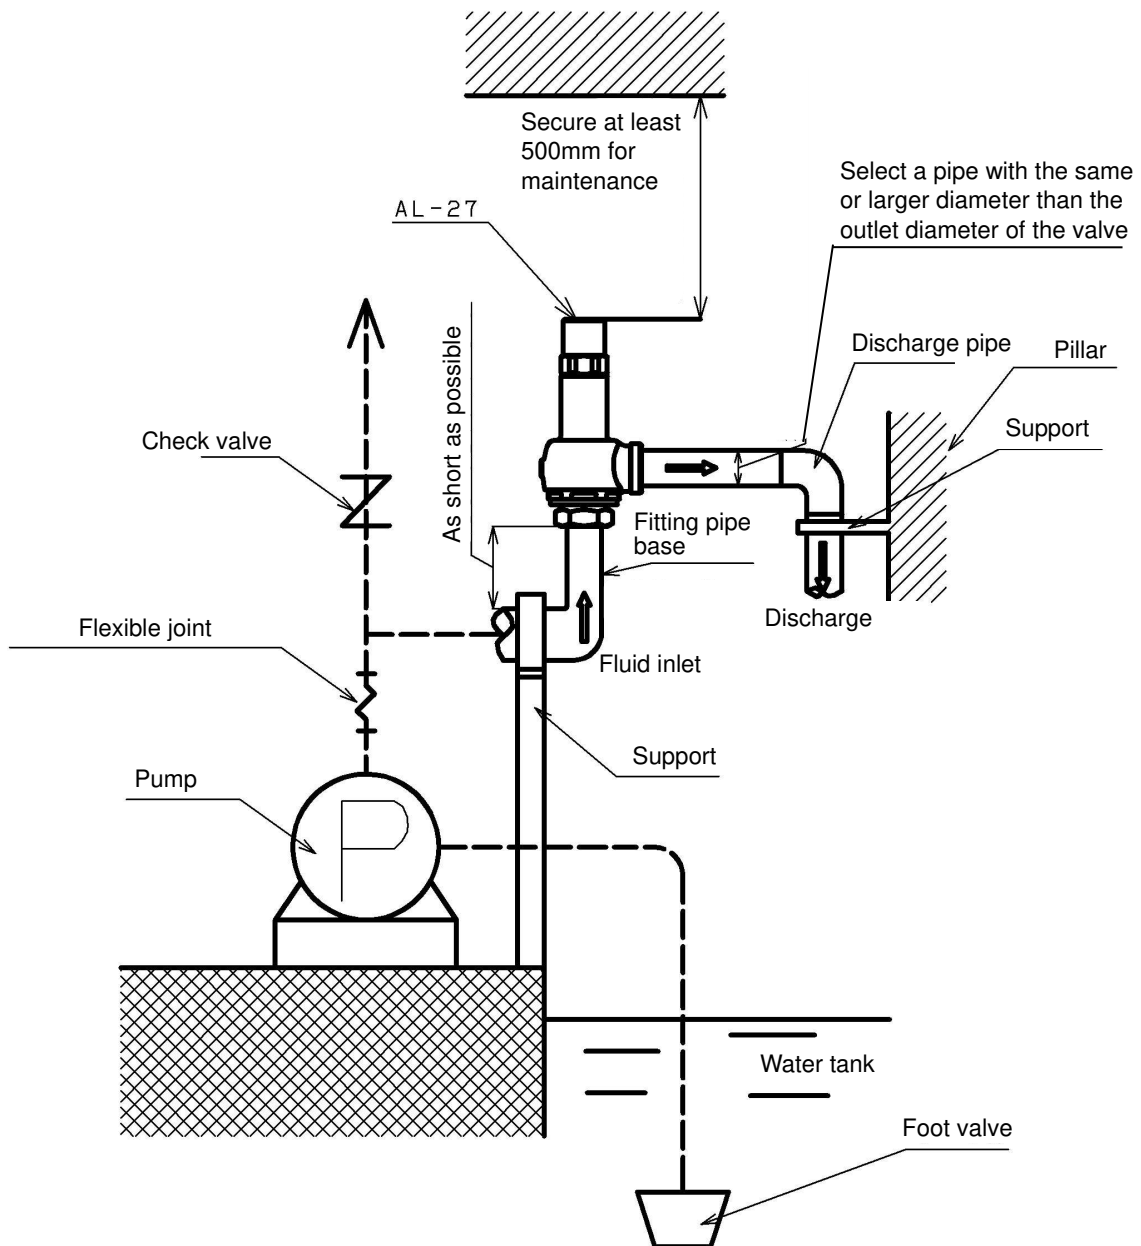

Figure 5. Piping example
3. Install the product vertically with the cap [11] upward. Taking an example with Figure 5, the product must be vertical against water surface in the tank because the surface is horizontal.
7.1 Fitting pipe base (See Figure 5.)
- (1) Fitting pipe base should have enough strength and rigidity against the stress induced by reaction force in the opposite direction of the exhaust through the axis of the exhaust pipe.
- (2) Equip the discharge pipe with a support to avoid excessive load, deflection, or vibration.
- (3) Install the product at a place where its maintenance and inspection can be performed.
7.2 Discharge pipe (See Figure 5.)